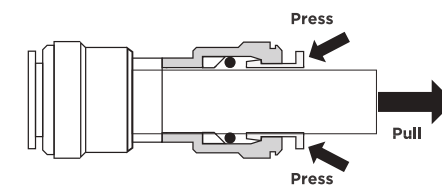
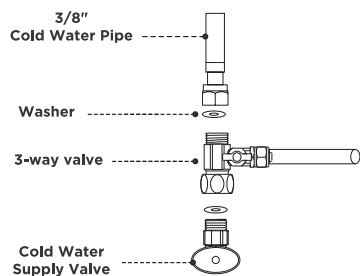

Figure 3
Figure 4
2. Use your thumb and index finger to press down on the lock sleeve. Use your other hand to pull out the tubing from the fitting (Fig 3).
4. Twist the feed water adapter onto the cold water supply valve (with its washer) and tighten it with an adjustable wrench (Fig.3). NOTE: If the cold water pipe is not 1/2", screw the two converters from the feed water adapter (Fig.4), and then implement step 3.